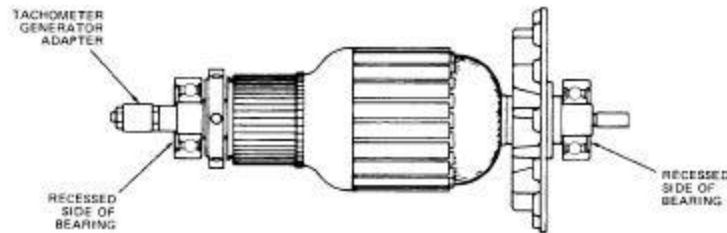

Figure 11-7. Armature Assembly
- f. Pull the armature assembly from the motor housing and remove the tachometer adapter from the armature shaft. Figure 11-7.